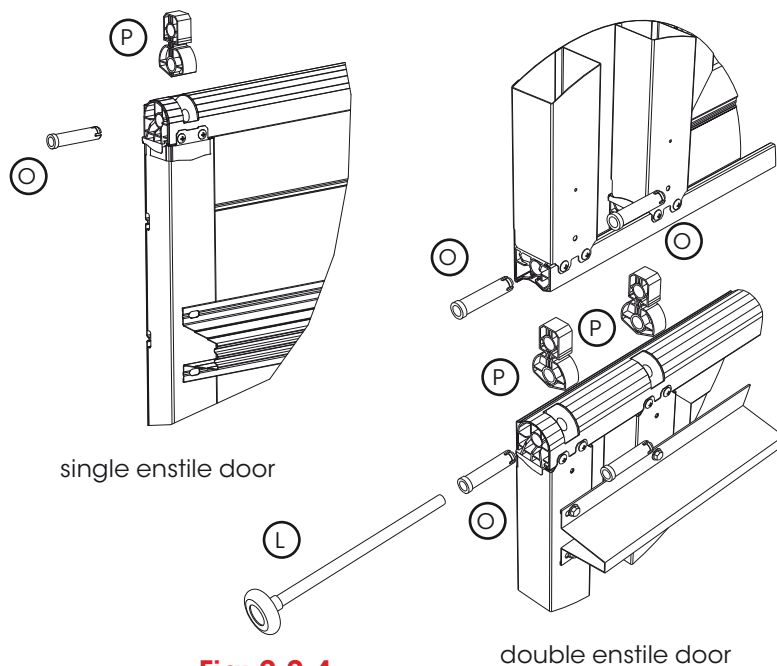

Fig: 2.2.4
- e) Insert the polyethylene hinge links (P) or Insul-Shield™ (refer to appendix) into the recesses of the top of the panel and fix into place using the white hinge pins (O). Fig 2.2.4.